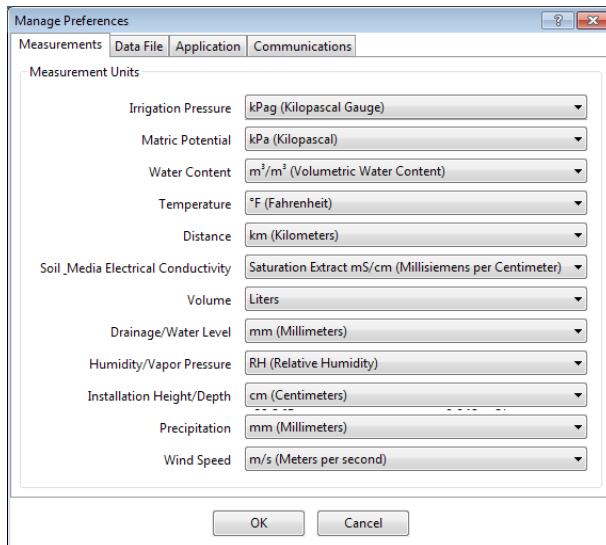

Figure 13 Measurements tab
- Measurements Tab (Figure 13):